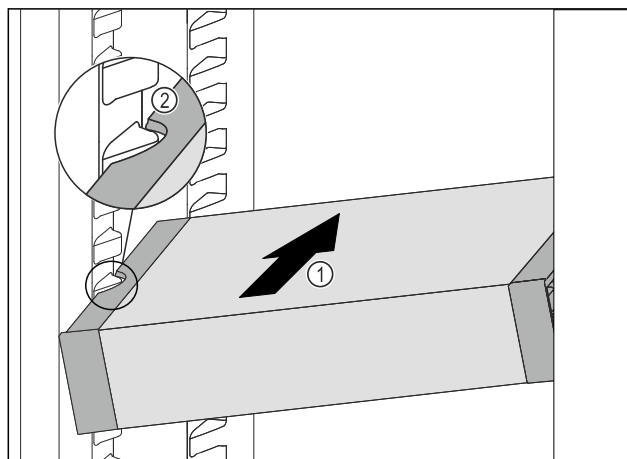

Fig. 100
- Insert the VarioSafe into the fridge section at an angle Fig. 100 (1) until the recesses in the side Fig. 100 (2) of the VarioSafe are at the level of the support rib in the fridge section.